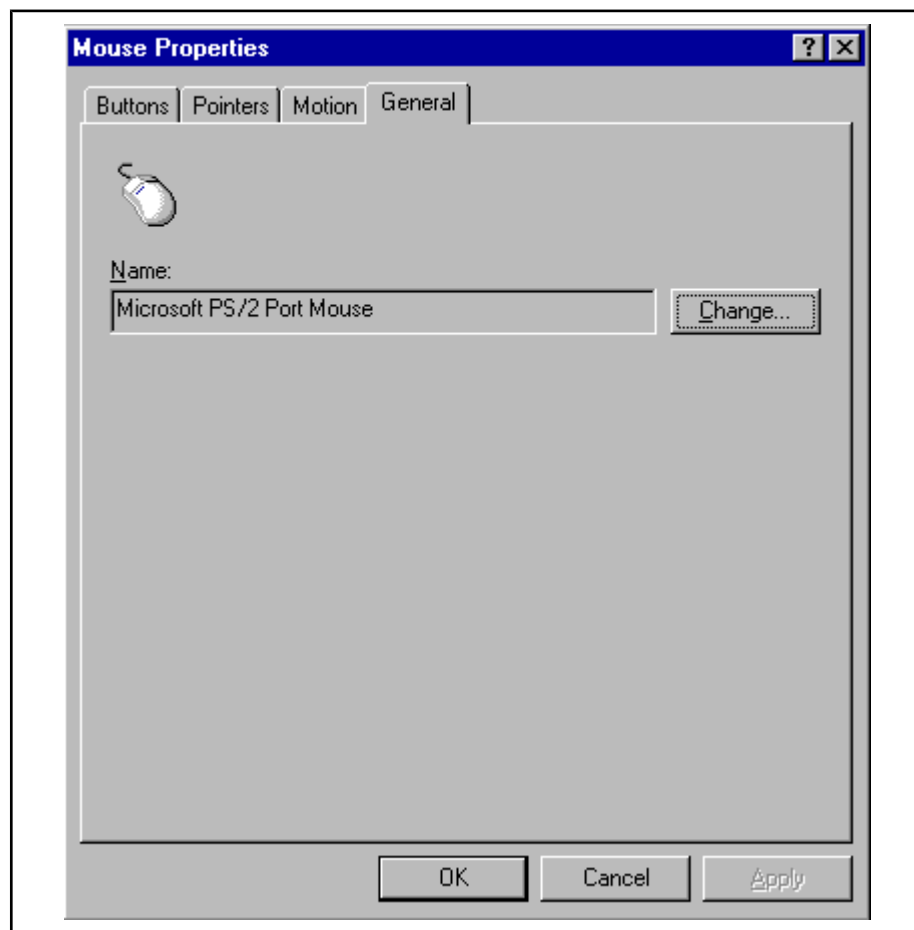

Fig. 6-4: Register button to set general mouse properties
1. Login as administrator and select under **Start ► Settings ► Control Panel ► Mouse** the register button "General", then select "Change" (also if the Microsoft PS/2 mouse is already selected) (see fig. 6-4 "Register button to set general mouse properties" on page 26).